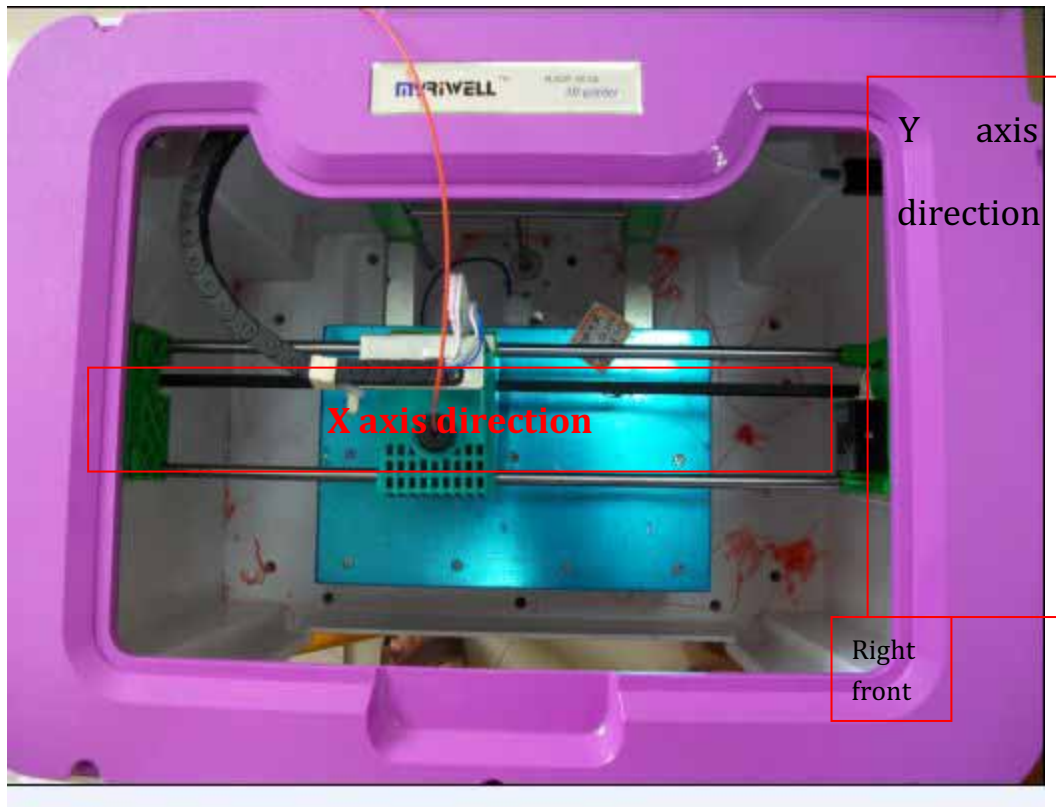

Figure 11
- Power on, select "platform calibration" mode, normal steps: a), extruding machine firstly move towards (Figure 11) the X axis travel switch in the X direction, b), collision to the X axis travel switch, extruding motor (Figure 11)
move towards the Y axis travel switch in the Y direction, c), collision to the Y axis travel switch, extruding motor moves to the right front of the machine (Figure 11), the Z axis direction (Figure 11) heating plate will rise, hit the Z axis travel switch, platform slightly fall, and stop moving.